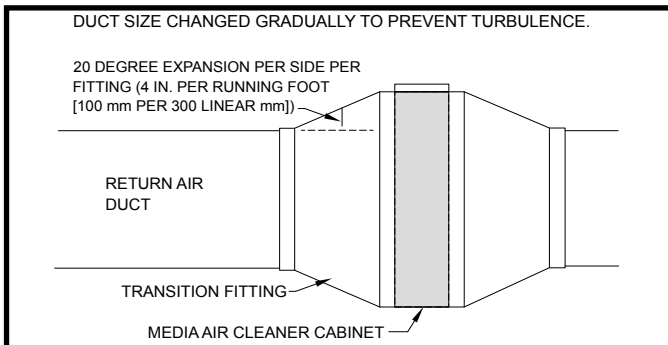

Fig. 11. Duct size changed gradually to prevent turbulence.
1. Use gradual transitions to reduce air turbulence and increase efficiency. See Fig. 11